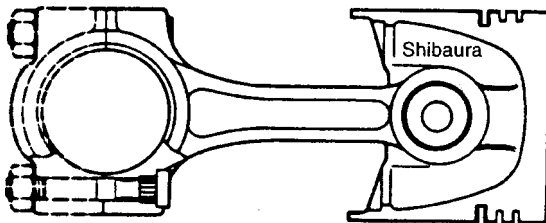

Fig. 50. Assembly of piston and connecting rod (MD2030, MD2040)
**MD2030, MD2040:** The marking on the connecting rod and the "SHIBAURA" mark in the piston should be turned in the same direction as per Fig. 50.